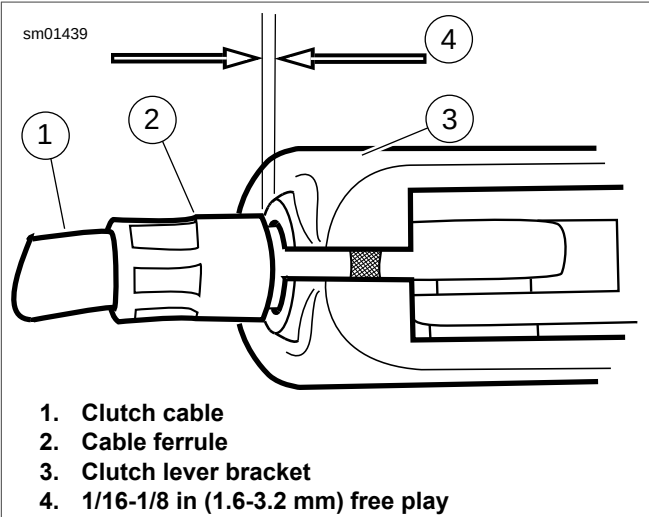

Figure 1-27. Clutch Free Play Adjustment
- 2. See Figure 1-27. Pull the clutch cable ferrule (2) away from the clutch lever bracket (3) and measure the free play (4).